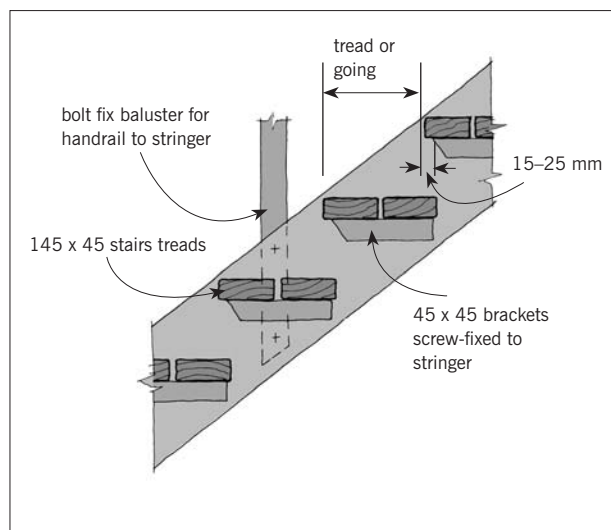

Figure 1. Simple external timber stair.
5.0.1 The simplest form of stairs are those constructed to provide access to exterior deck areas, as shown in Figures 1 and 2. These can be constructed in solid timber to match the deck construction. It is important that all timber and fixings used in the construction meet the same durability requirements as the deck construction. Section 4 of NZS 3604 *Timber framed Buildings* may be used as the Acceptable Solution to Building Code Clause B2 *Durability* for timber structures. Exposed bolts and other fastenings will need to be Type 304 stainless steel or epoxy coated galvanised steel.